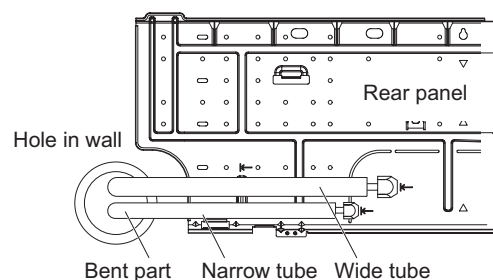

Fig. 2-257
- (1) Lead the tubing and drain hose through the wall, allowing sufficient length for connection. Then bend the tubing using a tube bender to make the attachment. (Fig. 2-257)
- (2) Switch the drain hose and drain cap.